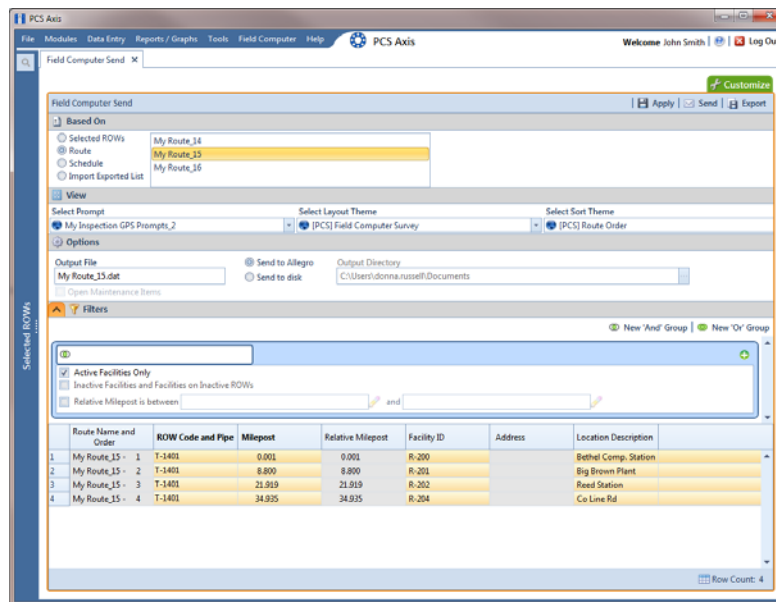

Figure 8-36. Filters
- b Select one or more options in *Filters*. For example, click **Active Facilities Only** to only include active facilities in the grid and in the route sent to the Allegro (Figure 8-36).